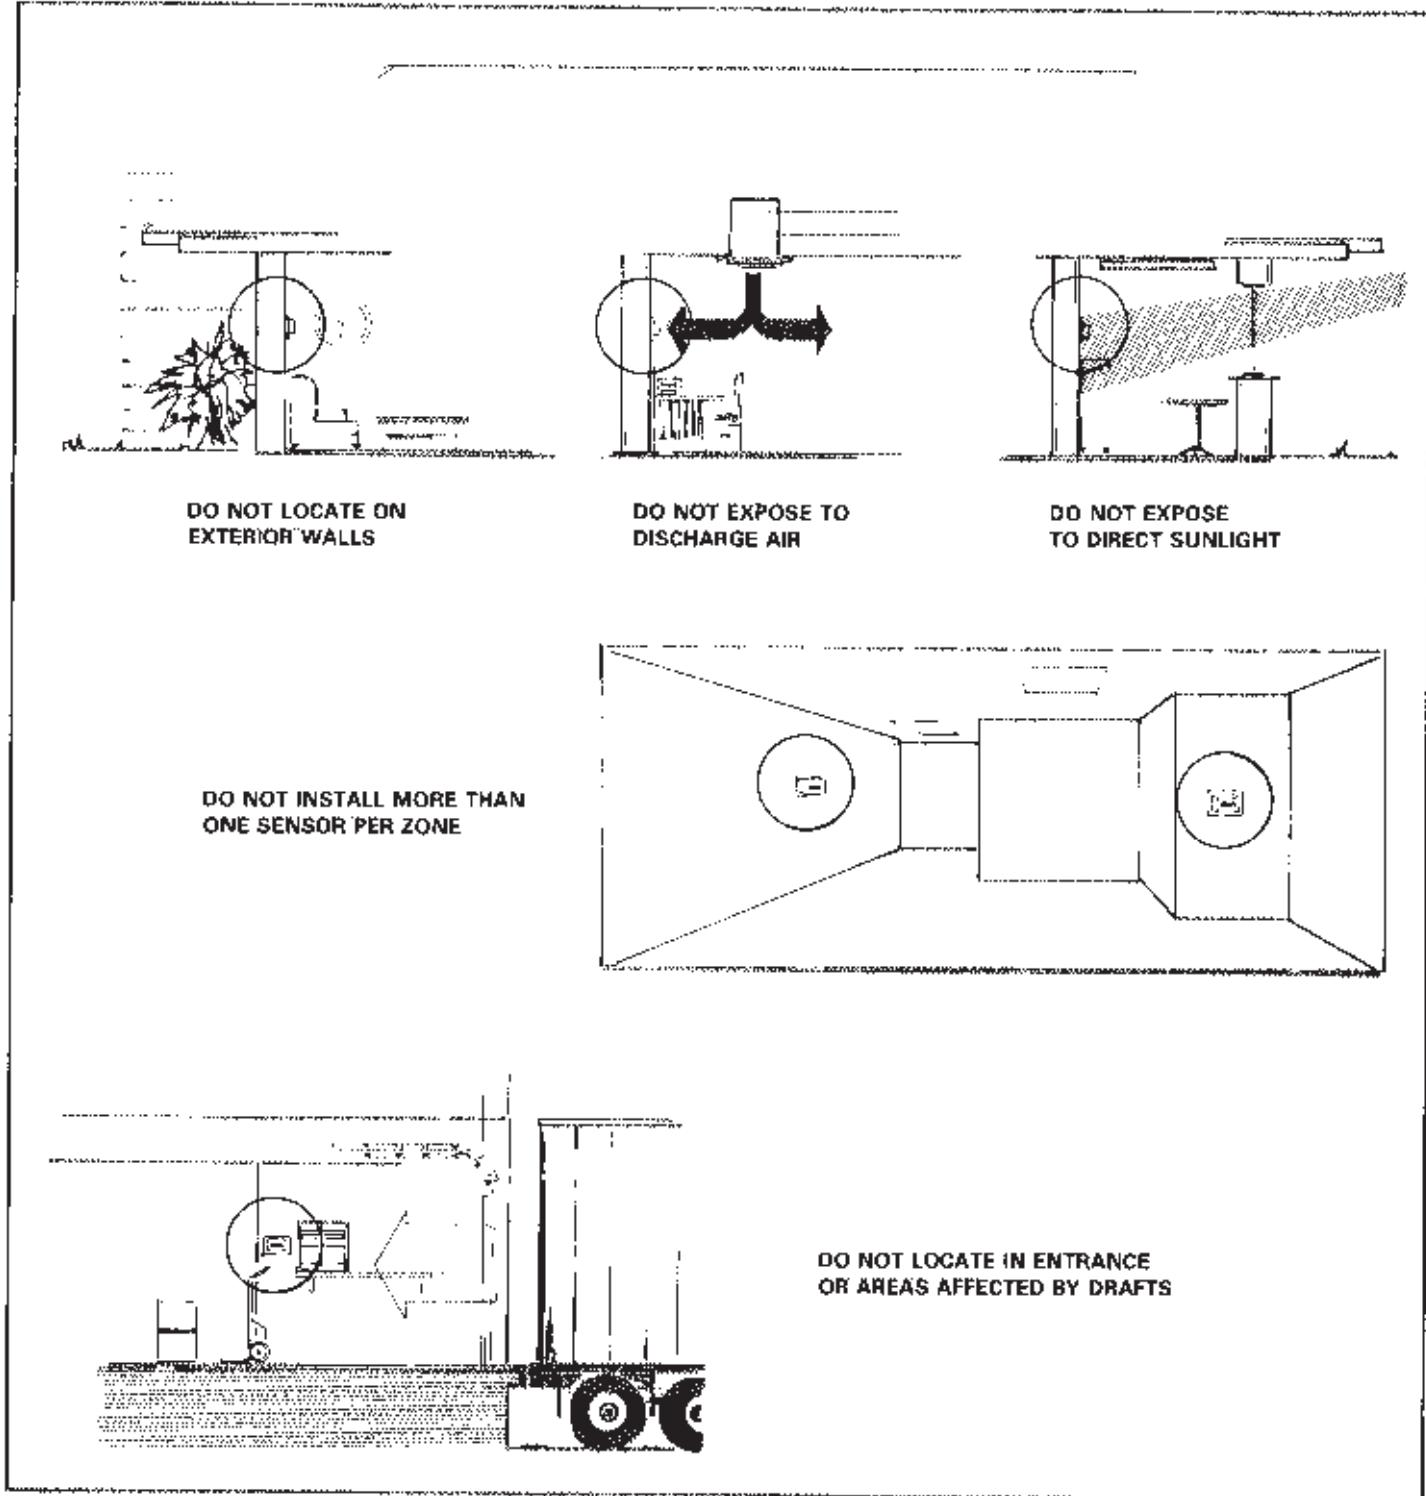

FIGURE 16
- 7 - Only one room sensor should be used per zone. If a zone requires more CFM (m³/sec) than one zone head damper can deliver, it is recommended two or more dampers be slaved (linked) together to satisfy zone requirements. Adjacent dampers in the zone head can be slaved together with mechanical linkage. Non adjacent dampers can be electrically slaved together. DO NOT USE MULTIPLE ROOM SENSORS IN THE SAME ZONE. See Figure 16.
- 2 - Do not locate room sensor on an exterior wall, in an entryway, or in direct sunlight. See Figure 16.
- 3 - Make certain room sensor or sensors are located where they sample air in the occupied space for a particular zone, however, direct impingement by discharged air upon the room sensor should be avoided or minimized. See Figure 16.